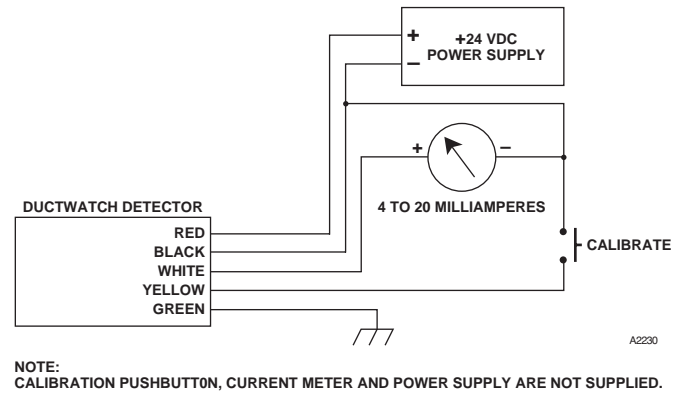
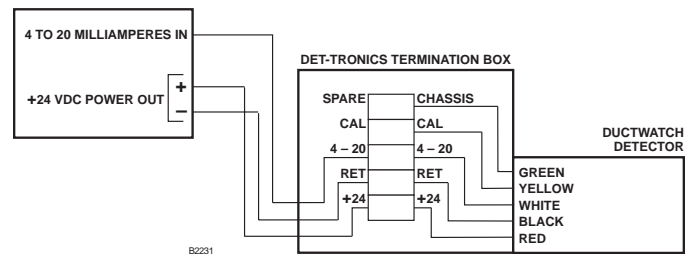
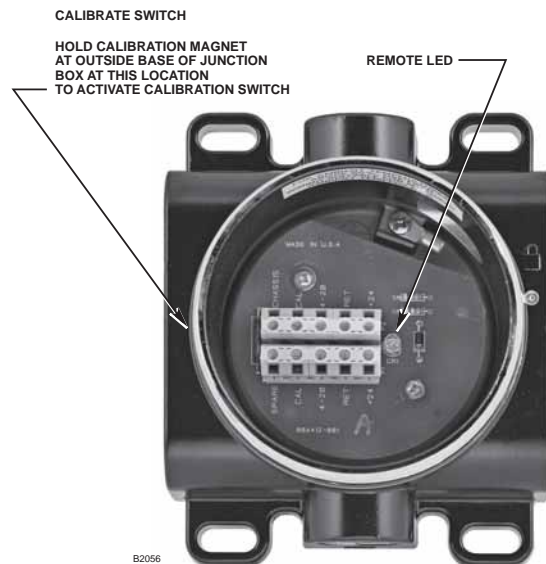
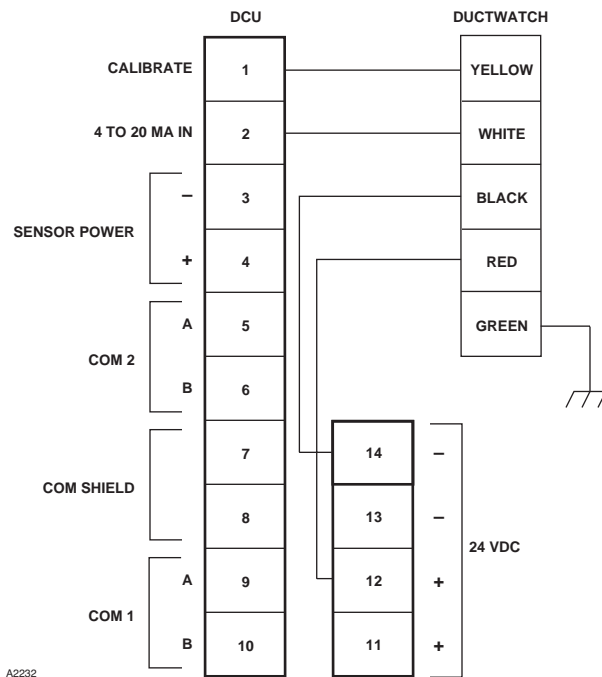

Figure 8—Typical DuctWatch Wiring, Stand Alone Configuration
Figure 9—Typical Wiring, DuctWatch with PIRTB Termination Box
Figure 10—PIRTB Termination Box Terminals and Calibration Switch
Figure 11—DuctWatch Wired to DCU in an Eagle Quantum Premier System
3. Wire the DuctWatch. Refer to Figures 8 through 11 for various system configurations using the DuctWatch detector. Refer to the appropriate figure as a guide to system connection. Figure 8 shows typical wiring for stand alone operation. Figure 9 shows typical wiring for DuctWatch with Det-Tronics supplied termination box. Figure 10 shows the termination box terminals and calibration switch. Figure 11 shows a DuctWatch wired to a DCU in an Eagle Quantum Premier system. The DuctWatch wiring color code is:
- The calibration sequence is initiated by momentarily connecting the calibration lead to the negative lead (common) of the power supply using the Cal Magnet or an external switch. If the Det-Tronics PIRTB box with magnetic Cal Switch is being used, this is accomplished by holding the Cal Magnet near the side of the PIRTB box for one second. The location of the Cal Switch is shown in Figure 10.
2. Initiate calibration by either momentarily activating the Calibrate pushbutton (shown in Figure 8) or by holding the Cal Magnet near the Cal Switch in the PIRTB box for one second.